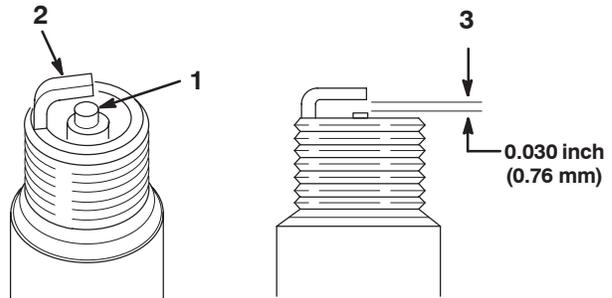

Figure 64
1. Look at the center of the spark plug(s) (Fig. 64). If you see light brown or gray on the insulator, the engine is operating properly. A black coating on the insulator usually means the air cleaner is dirty.
2. Check the gap between the center and side electrodes (Fig. 64). Bend the side electrode (Fig. 64) if the gap is not correct.